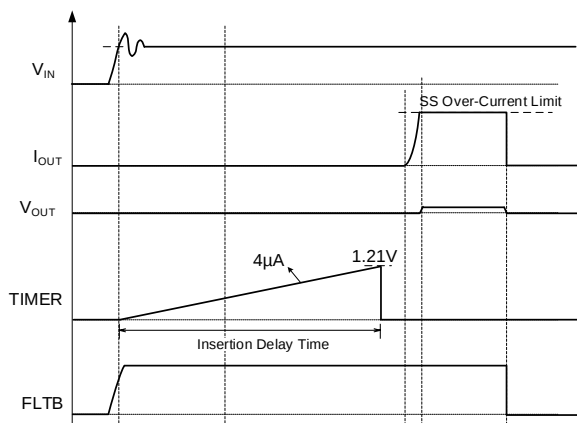

Figure 6: Soft-Start OCP Behavior
During start-up, if the current through the MP5026 is regulated by the SS current limit (I_{LIMIT_SS}) for the soft-start over-current (OC) regulation time (t_{OC_REG}), the gate stops regulating and pulls low. Then the soft-start OC fault is triggered, the power MOSFET shuts down, and the FLT_B and SS pins are pulled low (see Figure 6).